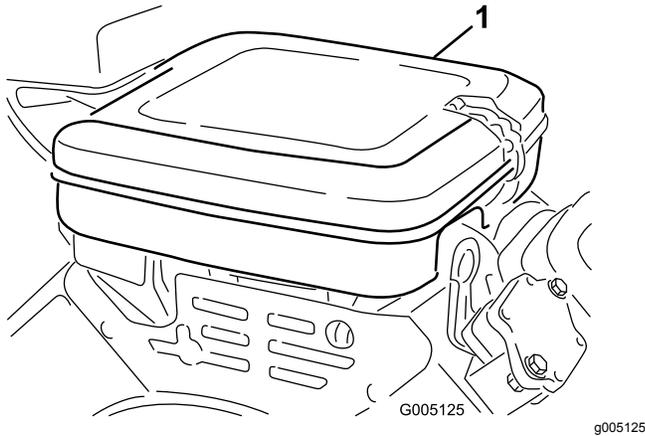

Figure 36
1. Clean the cover thoroughly (Figure 36).